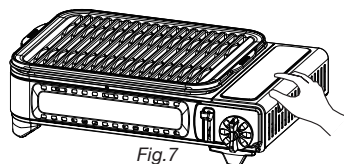

Fig. 7
2. When unpacking, make sure that all of the parts of the cooker are included. Assemble the parts: pan support assembly, stainless steel fat pan and BBQ grill as in sequence of parts list on page 2. The assembled BBQ cooker will appear as in Fig. 7